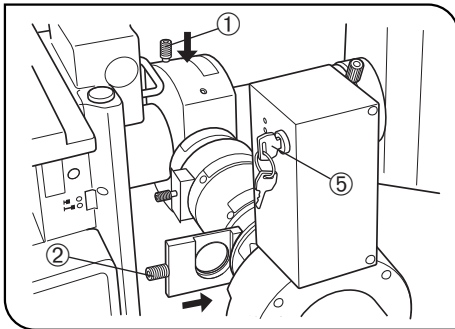

Fig. 1
1 Preparing for Laser Beam Introduction (Fig. 1)
1. Set the main switch ③ to "I" (ON).
2. Turn the key ④ till the ON position. This also starts the laser-cooling fans. The laser will start oscillation in about 10 seconds to 1 minute.
3. Set the laser interlock key switch (⑤ in Fig. 1) to ON.